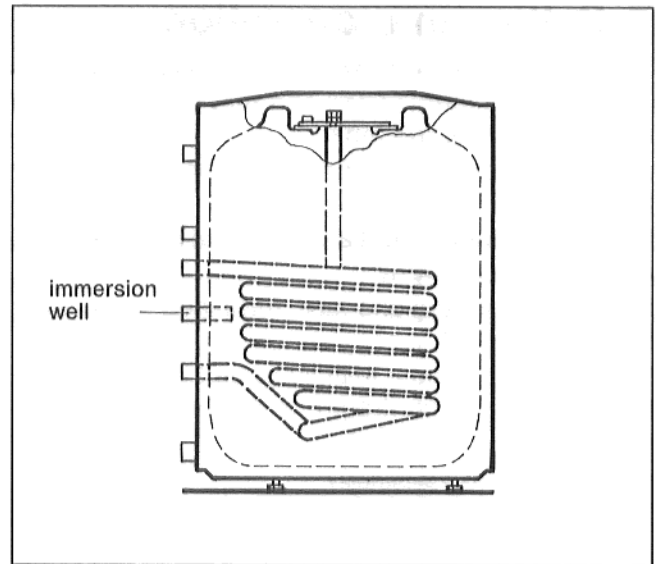

Fig. 7
- Install the sensors in the immersion well on the rear of the storage tank (Fig. 7).